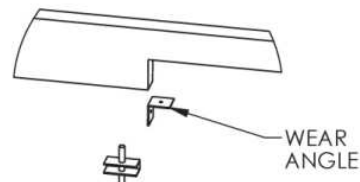

Fig. 6 – Wear angle
5. Remove scribe point from board and fasten wear angle as shown in Fig. 6.